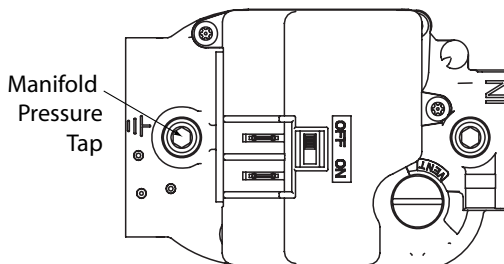

Figure 6. Manifold Pressure Tap Locations
- Using a 3/16 inch Allen wrench, remove the manifold pressure tap plug located on the outlet side of the gas valve as shown in Figure 6.